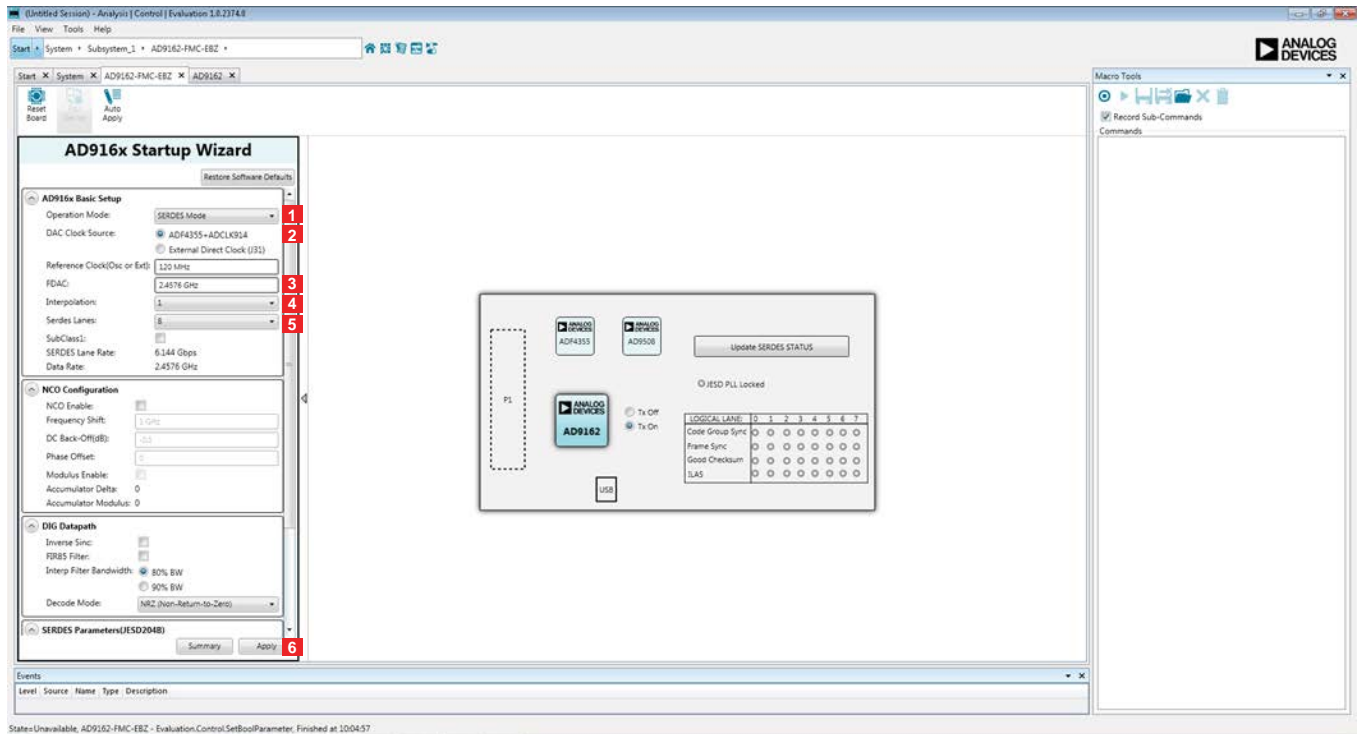

Figure 12. AD9161, AD9162, AD9163, and AD9164 Evaluation Board View and Clock Source Selection in ACE
3. Using the **AD916x Startup Wizard** on the left side of the window, follow these steps, as shown in Figure 12:
5. Change the frequency of the tone by enabling the NCO in the ACE board view. See Figure 12. Scroll down to the **NCO Configuration** section and check the **NCO Enable** box.